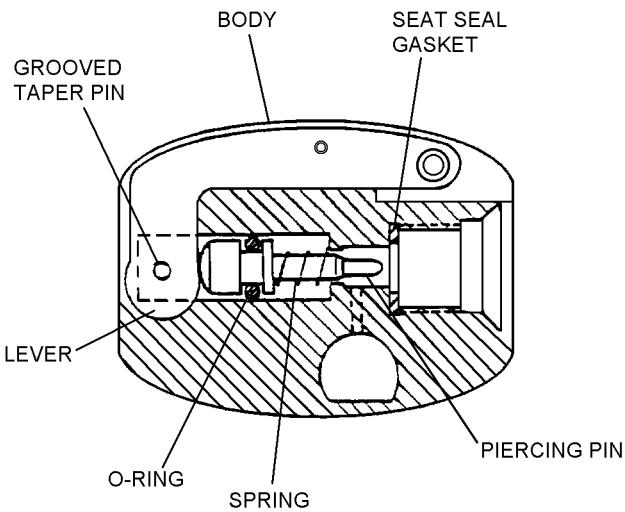

Figure 24-5. CO₂ Inflation Assembly
3. Remove grooved taper pin (retaining lever) from inflation valve, using awl and mallet. See figure 24-5.